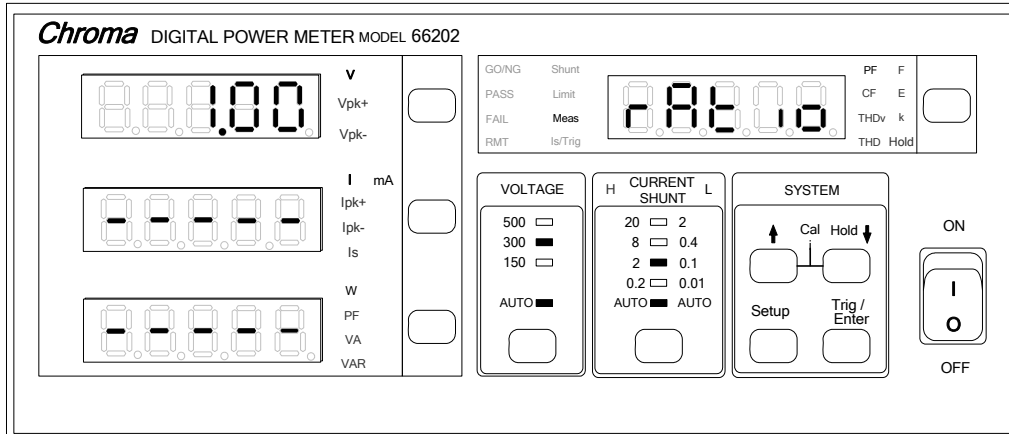

Figure 4-20 Setting RATIO
1. Press **Setup** to select Meas and the indicator of Meas is on. Figure 4-20 shows the setting of RATIO.